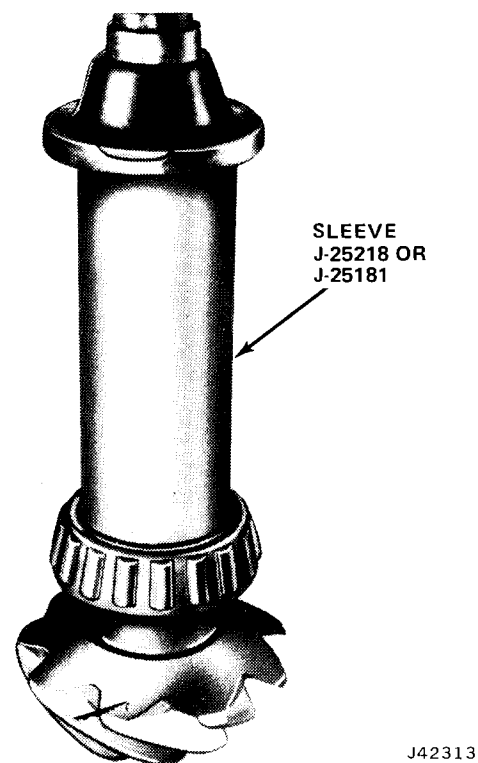

Fig. 10-55 Pinion Bearing Installing Sleeve
- (1) Install outer bearing cup using Driver J-25101.
(2) Install inner bearing cup using Installer J-25101 on Model 30 axles, and Installer J-25157 on Model 44 and Model 60 axles to drive cup into housing.
(3) Use Sleeve J-25218 to press inner bearing onto pinion shaft on axle Models 44 and 60. Use Sleeve 25181 on Model 30 (fig. 10-55).
(4) Install pinion gear in housing and install 0.065-inch shim, inner bearing, and universal joint yoke to hold pinion in position for pinion depth adjustment. Install pinion nut. Tighten nut only enough to remove end play and allow 10 to 15 inch-pounds of rotating (drag) torque and measure pinion depth.